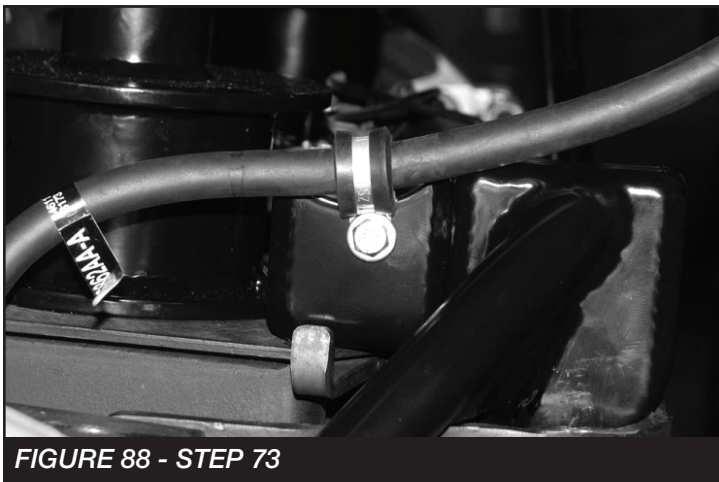

FIGURE 88 - STEP 73
73. Locate the supplied 1/4"-20x 1" bolt, nut, washers and FTCLAMP-LB10 rubber cushioned clamp and install on the rear axle breather tube, mounting it to the hole provided on the new track bar bracket. Torque to 14 ft-lbs. **SEE FIGURE 88**